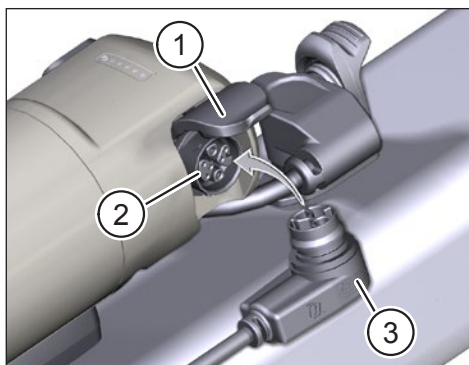

Fig. 9: Range Extender charging
- ▶ Unfold the cover (Pos. 1 in Fig. 9) on the charging port of the Range Extender.
- ▶ Check that the terminals in the charging port (Pos. 2 in Fig. 9) are free of dirt and clean them if necessary.
- ▶ Insert the charging plug (Pos. 3 in Fig. 9) of the charger into the charging port of the Range Extender.